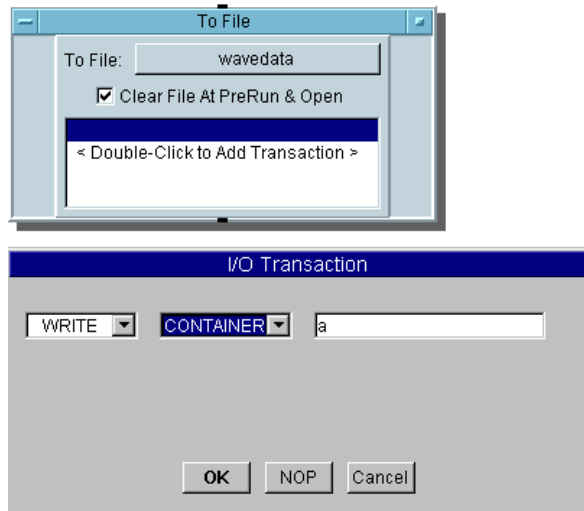

Figure 2-10. Choosing an I/O Transaction
3. Double-click on the area labeled `Double-Click to Add Transaction` to write the data. The dialog box in Figure 2-10 appears. Click the `TEXT` field (or its arrow) to show the drop-down list of data types and click `CONTAINER`. Click `OK`. Notice that when you click `OK` in the `I/O Transaction` dialog, an input pin `a` is automatically added to the `To File` object.